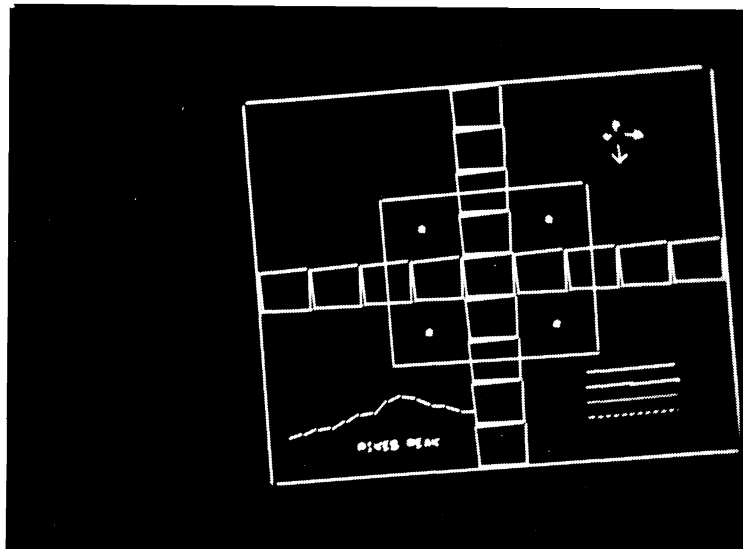

Figure 4-3. Display of an Uncalibrated Verification Pattern
- d. If display on screen appears as shown in figure 4-3, refer to Section 5, Adjustments.